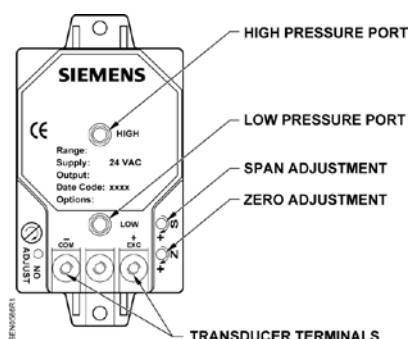

Figure 7. Differential Pressure Transmitter Wiring Connections.
5. Connect a two-conductor 20 AWG cable to the field panel's 4 to 20 mA input or UC's universal input. Connect it to the differential pressure transmitter or through the wiring bushing/knockout on the controls enclosure to the differential pressure transmitter inside the enclosure. Connect the cable to the differential pressure transmitter (Figure 7).